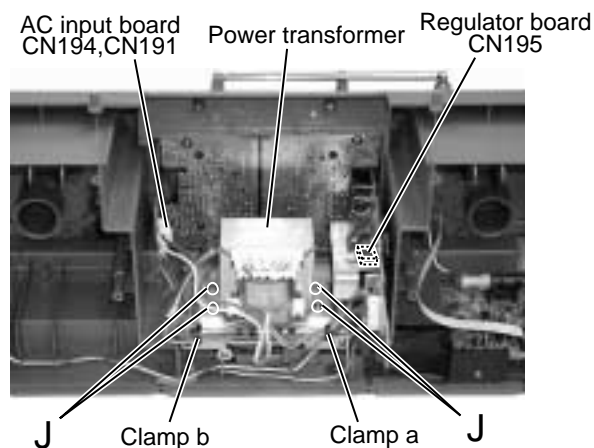

Fig.15
■ Removing the power transformer (See Fig.15 and 16)
■ Removing the regulator board (See Fig.15, 16 and 17)